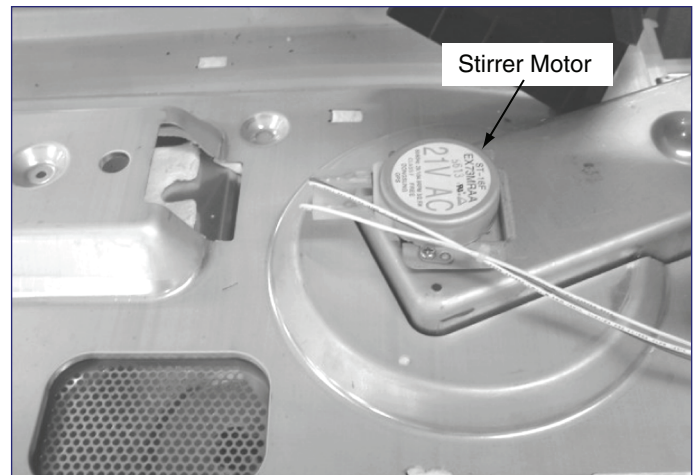

Figure 4-17. Stirrer Motor Removal
3. Remove the bracket duct upper and disconnect the stirrer motor wire. (See Figure 4-17)
4. Remove stirrer motor screws(1) and lift up stirrer motor after turning left.